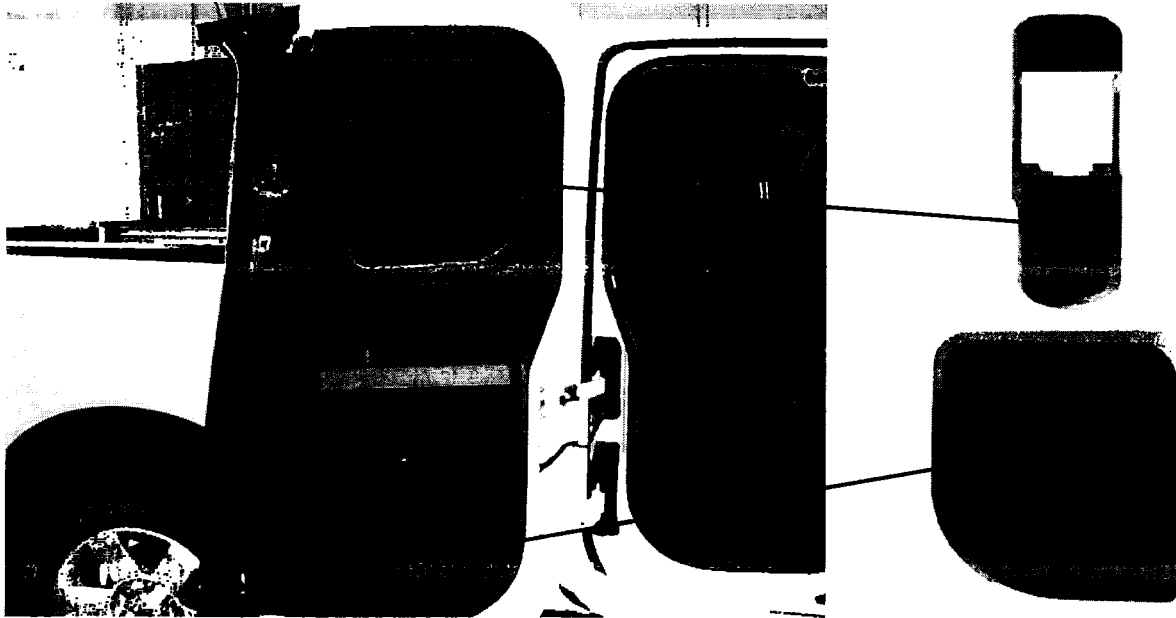

Figure 1
4. Remove upper and lower seatbelt anchor trim (see Figure 1).